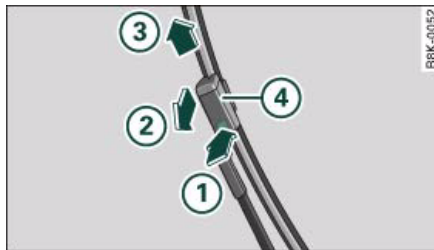

Fig. 70 Removing the wiper blades
- Press the release button ① on the wiper blade ⇒ *fig. 70*. Hold the wiper blade firmly and press it forwards slightly ②.
- Slide the wiper blade upwards ③.